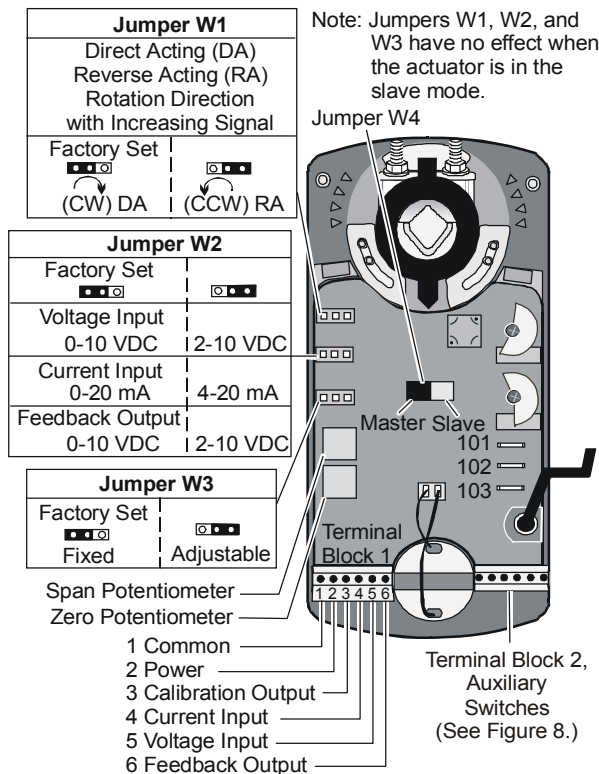

Figure 13: Settings for HGx Models
HGx models are factory set with Jumper W4 in the master position. Designate one unit as the master actuator. Refer to Figure 13, and proceed as follows:
HGx and JGx models are factory set with Jumper W1 in the DA position. Move Jumper W1 to the RA position. (See Figure 13.) Apply power and a control signal to the actuator to verify proper operation. (See Table 2.)
The GGx models have a Light Emitting Diode (LED) indicator shown in Figure 13. When the actuator is driving to position, the LED flashes five times every second. When the unit is AUTO calibrating, the LED flashes ten times every second. When the unit is idle, the LED flashes once every 2-1/2 seconds.
HGx models are factory set with Jumper W1 in the DA position, Jumper W2 in the 0 to 10 VDC or 0 to 20 mA position, Jumper W3 in the fixed position, and Jumper W4 in the master position. (See Figure 13.)
1. Verify that Jumper W2 is in the 0 to 10 VDC position, and Jumper W3 is in the ADJ position. (See Figure 13.)